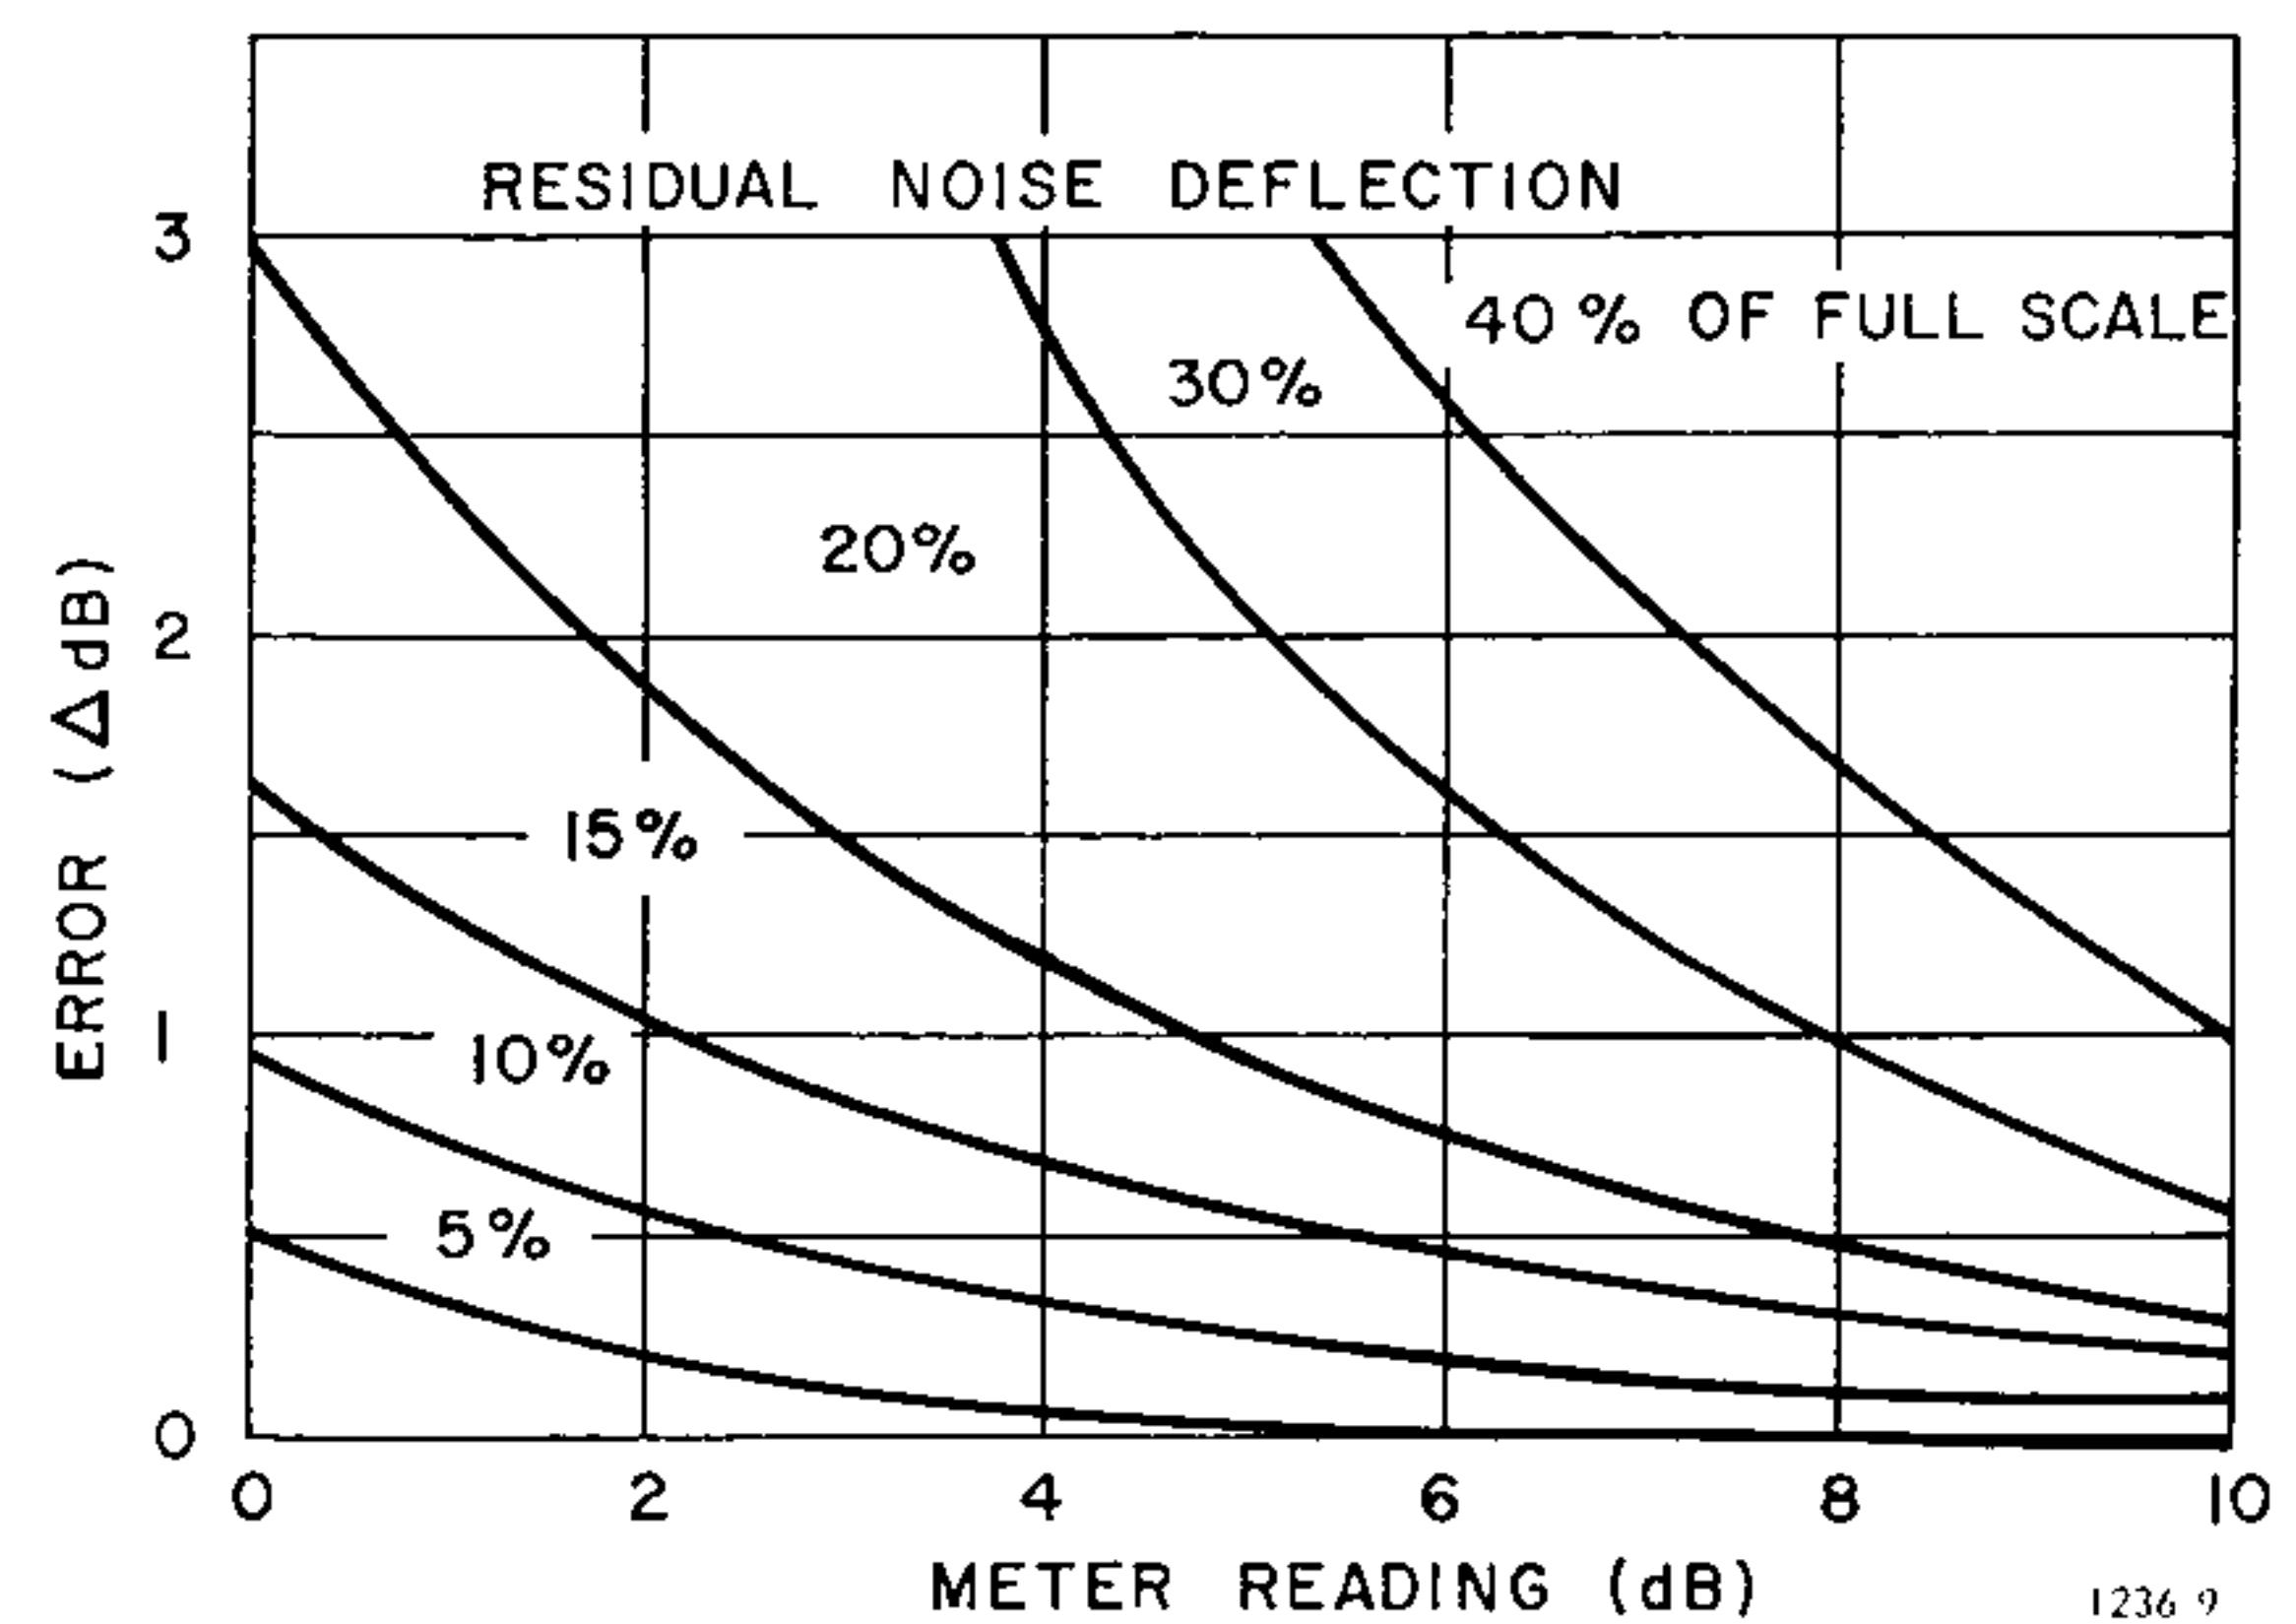

Figure 3-3. Curves showing meter error caused by residual meter deflection due to noise. Corrected reading = meter reading $-\Delta$ dB.
When the ATTENUATION control is set at -10 dB, residual meter deflection (due to noise) will result. The noise level depends upon the setting of the GAIN control and on the source impedance. If signal levels are to be measured at the -10 dB ATTENUATION setting, the meter readings must be corrected for residual noise. As the plot in Figure 3-3 shows, the error increases with either a decrease in signal level or an increase in residual noise. Correct the meter reading as follows:
- Record the error (Δ dB) taken from Figure 3-3.